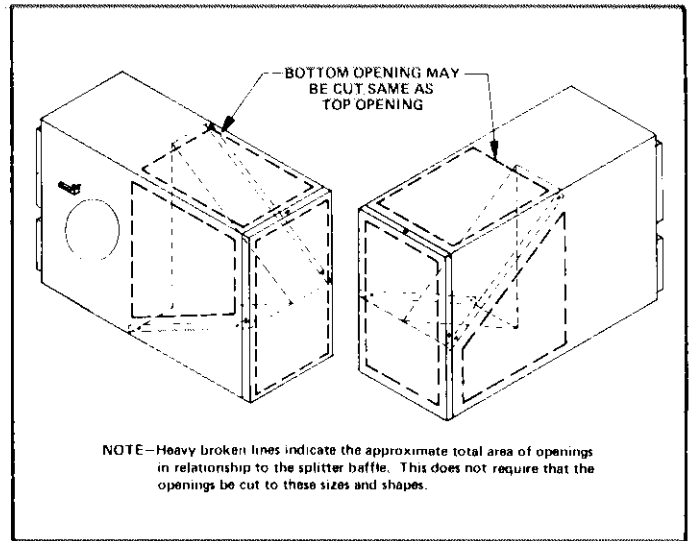

FIGURE 10
- 2 - The supply air from the hot and cold ducts are transitioned in the zone damper box by a splitter baffle. Refer to Figure 10 for the duct take offs in relationship to the splitter baffle.